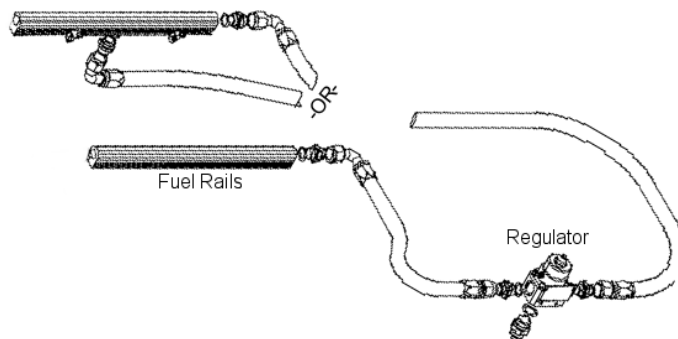

Figure 3-2
- 3-6. Starting from the fuel rails, plan a route to run an AN-08 supply line from each fuel rail to each side of the regulator, see **FIGURE 3-2**. Cut the two supply lines to the determined length and install the AN-08 hose ends, as detailed in Section 4.
- 3-7. Using the above steel braided hose assemblies, connect one end to the side of the fuel pressure regulator and the other end to the fuel rails, as shown in **FIGURE 3-2**, and tighten.